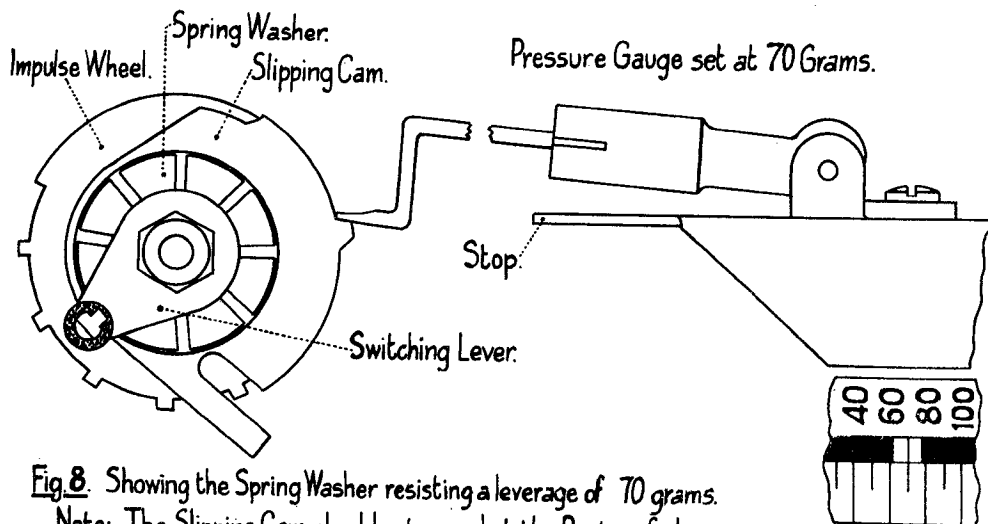

Fig. 8. Showing the Spring Washer resisting a leverage of 70 grams.
- 2.5 The spring washer should apply sufficient tension to the slipping cam, so that the cam will not slip with a pressure of 70 grammes applied tangently at the point shown in Figure 8 but will slip with a pressure of 80 grammes (Figure 9).